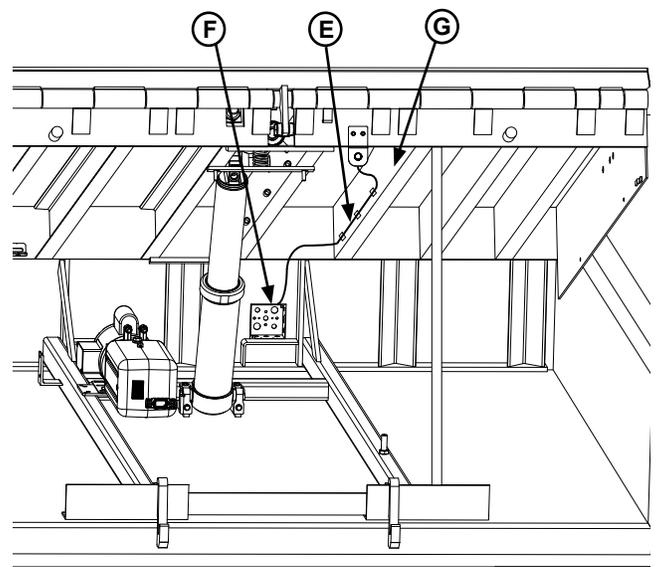

Figure 15
3. Verify the cable's path to the junction box (F) at the rear of the pit. See **Figure 15**. Evenly distribute the included cable tie mounting bases on the platform beam (G) next to the cable's path.